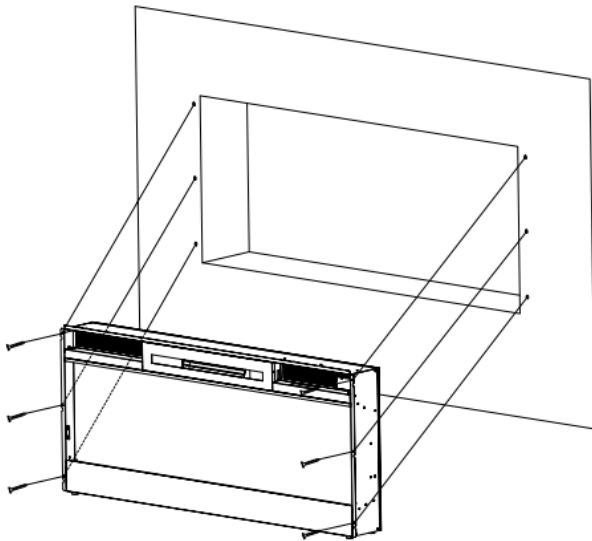

Fig. 2-1
- Use the 6 screws (provided) to lock the appliance into the wall with the existing two side flanges, see **Figure 2-1**